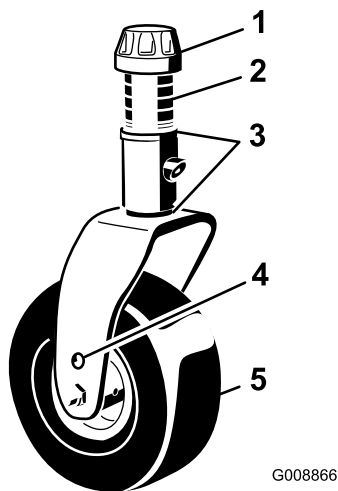

Figure 21
5. Remove the tensioning cap from the spindle shaft and slide the spindle out of the caster arm (Figure 21).